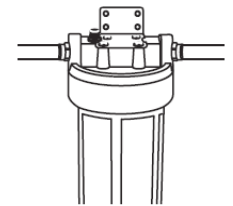

Figure 6
8. Fasten bracket to filter head with four Phillips head screws provided. (See Figure 6). Fasten bracket to wall with four Phillips head screws provided. If pre-drilling holes, bracket maybe used as a template for making screw hole locations.